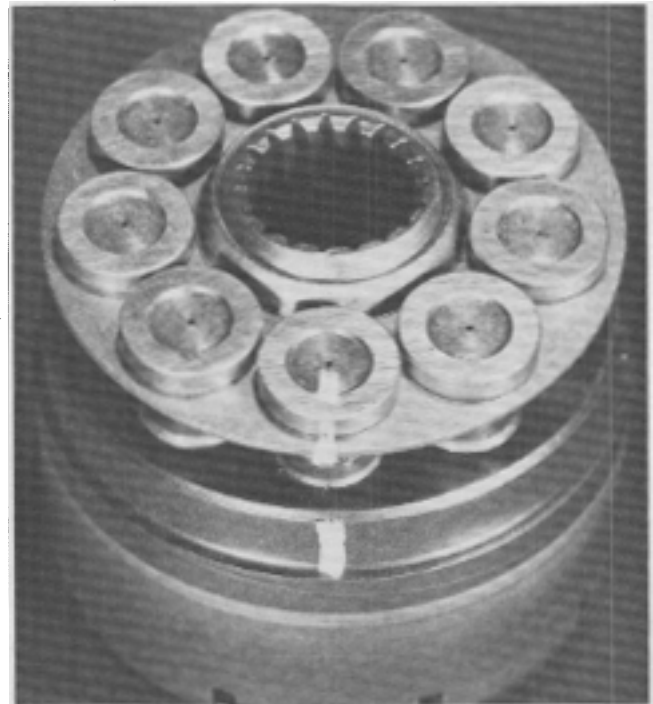

FIG. 88. Before removing Piston, Mark both Piston and Cylinder Bore with Tape
1. Remove the pistons, slippers and slipper retainer assembly from the cylinder block. (See Fig. 88).